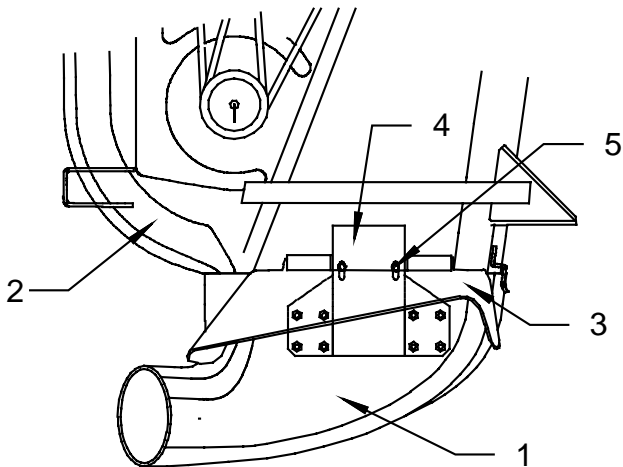

Figure 8
1. Install the boot on mower (if it is not installed) by lifting the mower discharge chute (do not remove it) and introducing the boot bracket holder between the discharge chute and the mower deck (fig. 8).
2. Release the discharge chute. It should lock the boot in place behind the bolt head (fig. 8).
3. If the bolts are not positioned correctly to lock to boot in place, loosen the bolts, slide them to the correct position so that the chute locks the boot in place. Tighten the bolts (fig. 8).
4. The boot must fit the mower snugly (fig. 8).
2. If the boot or suction tube plug up, stop the mower, back the tractor 6 to 10 feet, stop the engine, set the parking brake, remove the ignition key, remove spark plug wire(s), remove the boot from mower by lifting the discharge chute which locks the boot in place (fig. 8). Remove the boot and tube, unplug and reinstall in place. Spread the cut grass in front of the tractor.